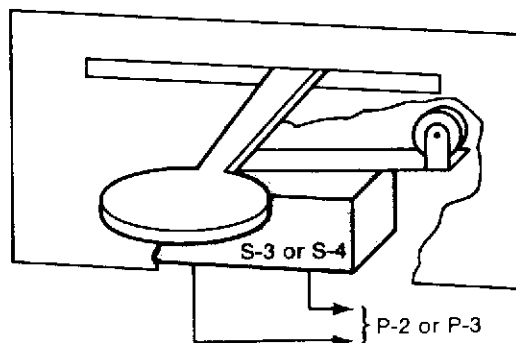

FIGURE 3 Internal dowser control switch
The SPDT switch (S-3 or S-4) is mounted under the control lever so that it will be actuated when the lever is moved to PROJECT or LAMP (Figure 3).
5. Mount switch S-3 or S-4 on the projector (Figure 3), making sure the mounting screws do not interfere with any internal parts. Connect the plug P-2 or P-3 to the switch.